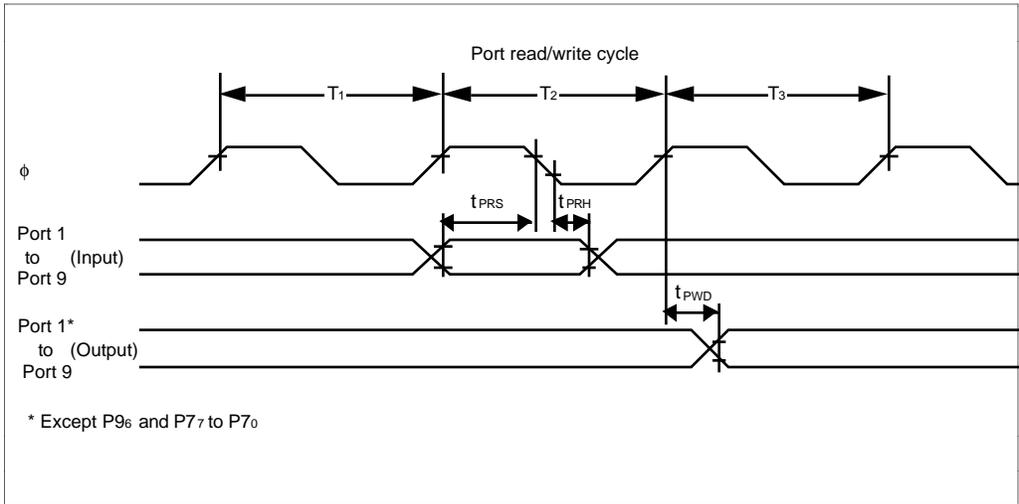

Figure 17-18 I/O Port Input/Output Timing
- 17.3.7 I/O Port Timing Figure 17-18